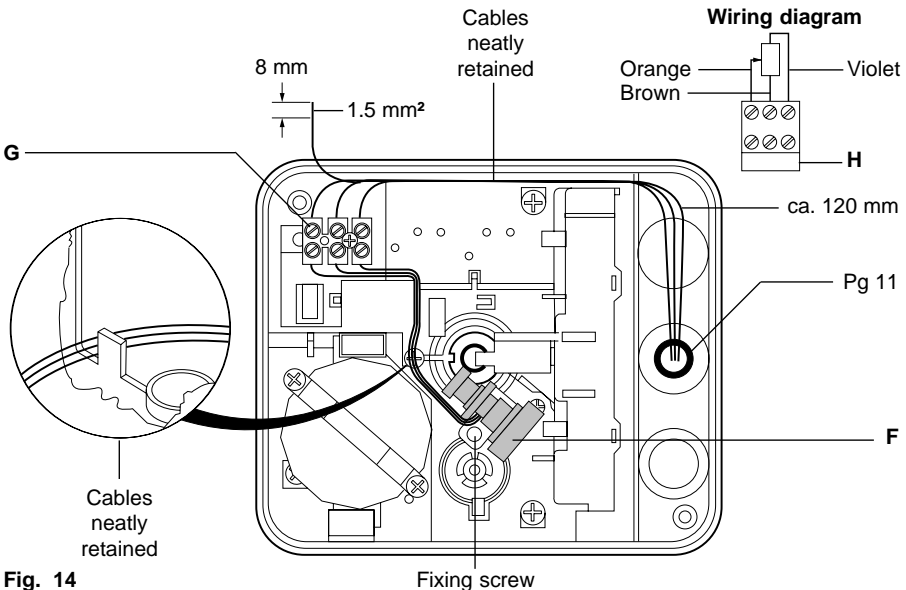

Fig. 14
1. The potentiometer (F) should be rotated fully clockwise using a flat screwdriver on the end of the potentiometer shaft.
3. Locate and screw the potentiometer in place as shown in Fig. 14.
4. A terminal block (G) and label (H) are also supplied and should be screwed to the base.
6. Connect the potentiometer cables following the wiring diagram shown in Fig. 14.